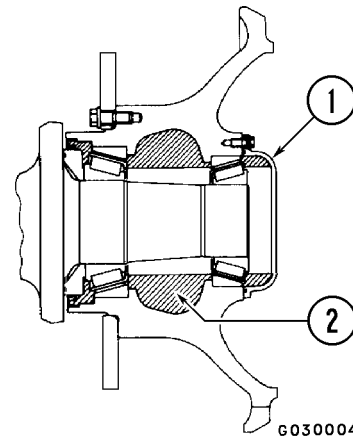

FIGURE 3-7. FRONT WHEEL BEARING
4. Using a push tool, press fit oil seal (1) into hub.
5. Set brake disc (3) in position on hub. Apply thread tightener Three Bond (TB1374) to the capscrews and attach brake disc to hub. Tighten capscrews to **94.5 ± 10 kg.m (685 ± 72 ft. lbs.)** torque.
7. Fill the shaded portion (Figure 3-7) fully with grease shown in Table 1. Approximately 17.5 liters (4.6 gallons) of grease is required for each wheel.